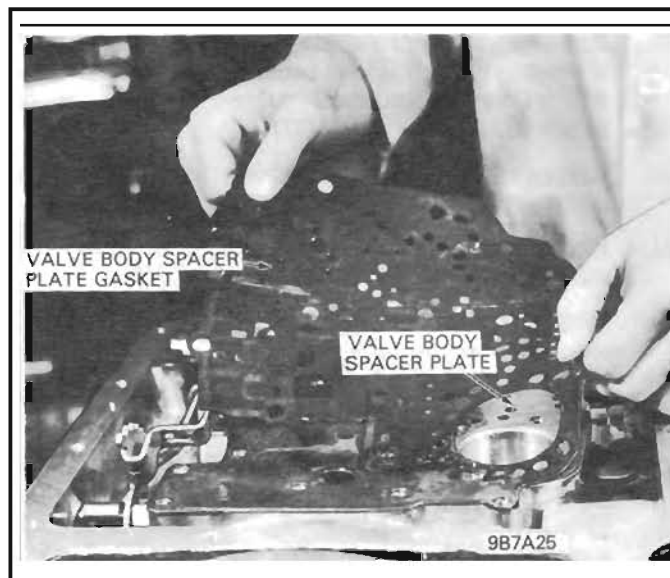

Figure 22 Valve Body and Spacer Plate Gasket
19. Remove spacer plate and gaskets. *See Figure 22.* The spacer plate to valve body gasket has a yellow ink stripe. The yellow ink stripe is necessary for identification purposes. This gasket is almost identical to the spacer plate to case gasket.